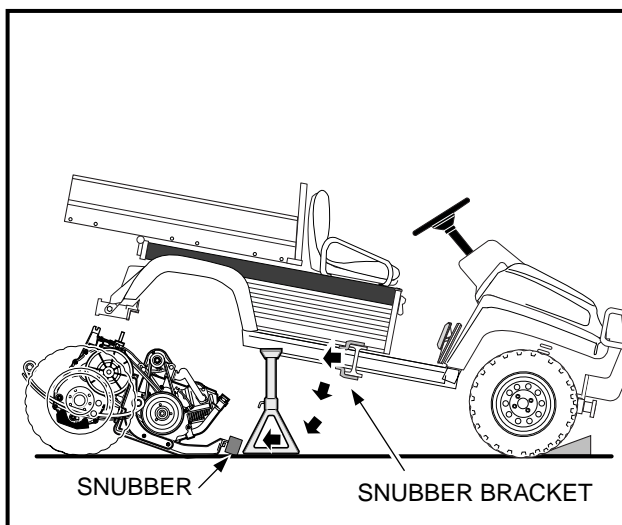

Figure 16-30 Snubber
11. Carefully lift the snubber out of the snubber bracket in the vehicle frame and lower it to the floor (**Figure 16-30, Page 16-13**). The powertrain should be completely disconnected from the vehicle and resting on the floor.